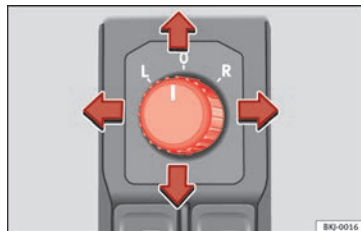

Fig. 148 Exterior mirror controls.
1. Turn knob » **Fig. 148** to position **L (left exterior mirror)**.
- Turn the control » **Fig. 148** to position  to fold in the exterior mirrors. You should always fold in the exterior mirrors if you are driving through an automatic car wash. This will help prevent damage.